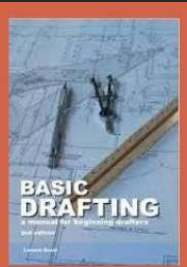

Figure 2-4 The T-square and the parallel bar are used to create straight lines, whether they are horizontal or vertical.
- The most common of these instruments are the T-square and parallel bar (Figure 2-4). A device called a drafting machine (Figure 2-5) is also sometimes used.